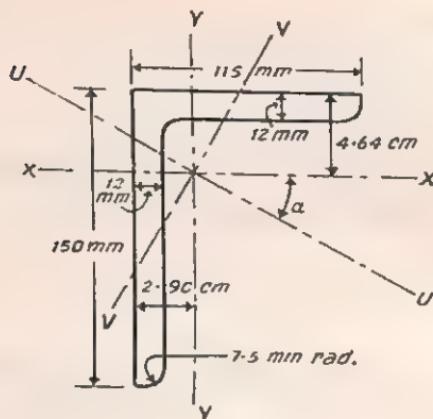

Fig. 61
8. A beam of angle section $150 \text{ mm} \times 115 \text{ mm} \times 12 \text{ mm}$, shown in Fig. 61, is freely supported on a span of 2 m with the 150 mm leg vertically downwards. A vertical load of 1,200 kg is applied on the 115 mm leg at the centre of the span. Find the maximum tensile and compressive stresses in the beam.